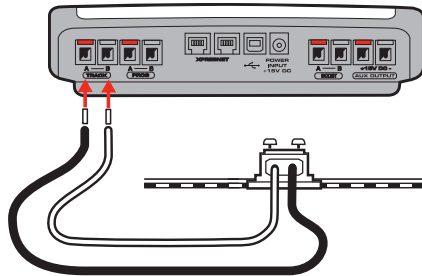

Fig. 1
1. Locate the terminals at the back of the **Elite** labelled **TRACK**. See Fig. 1